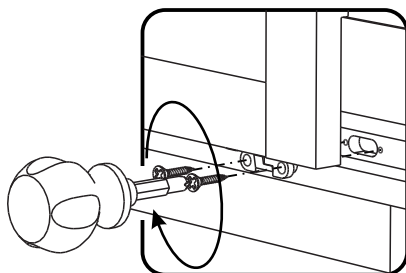

Figure 6
Attach Doors (J) and (K) to unit by inserting door hinges into slots in unit and attach with Wood Screws (long). (See Figure 6)